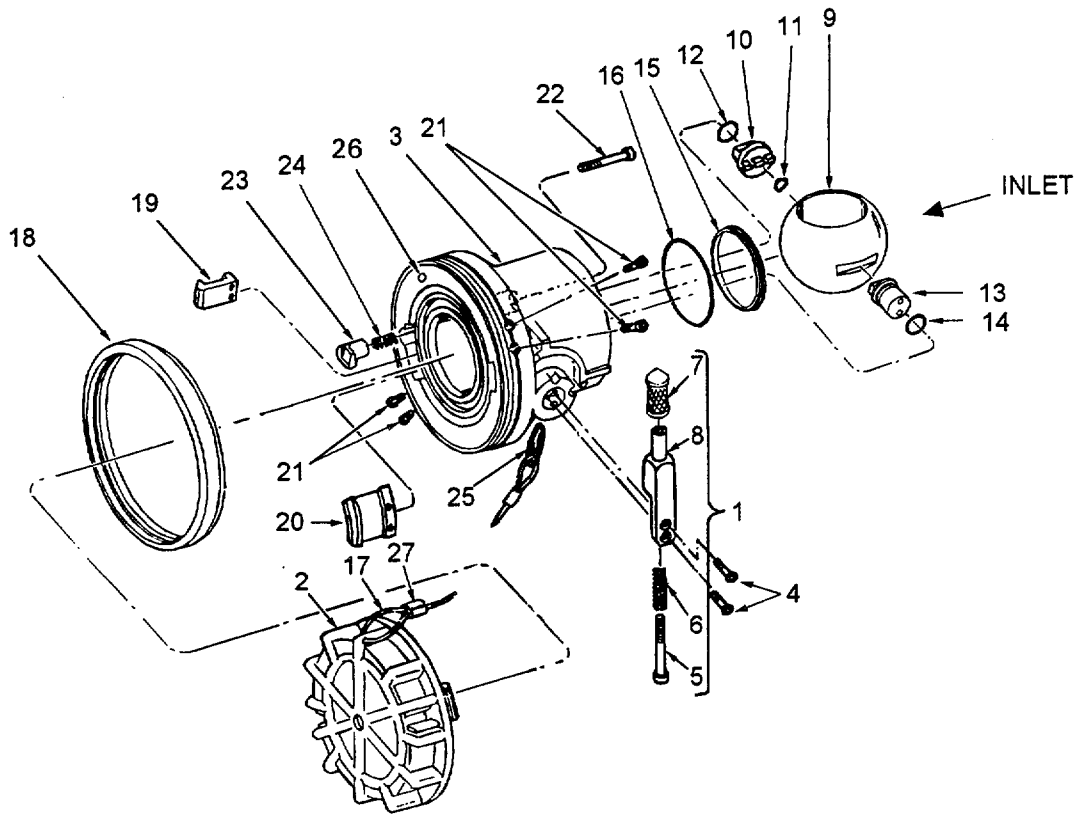

Figure 5-8. Two Inch Valved Unisex Coupling
5.6 REPAIR TWO-INCH VALVED UNISEX COUPLING. (REFER TO FIGURE 5-8.)